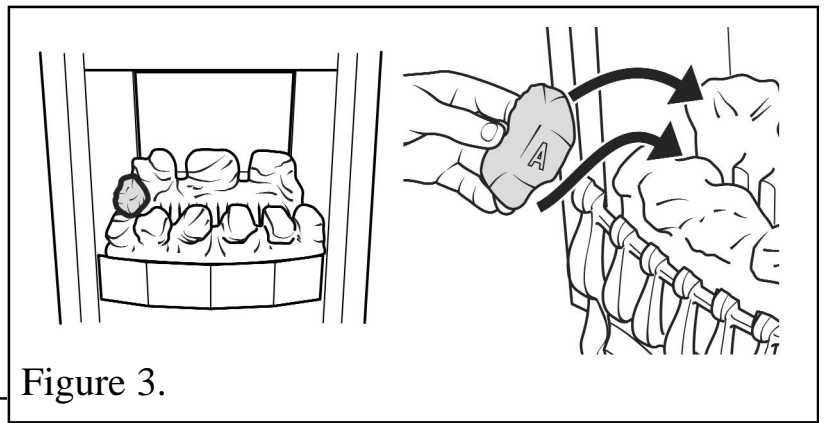

Figure 3.
**3.** Place a type “A” coal between the front and rear base coals with the letter “A” upright and so that the coal is against the left side of the firebox (See figure 3).